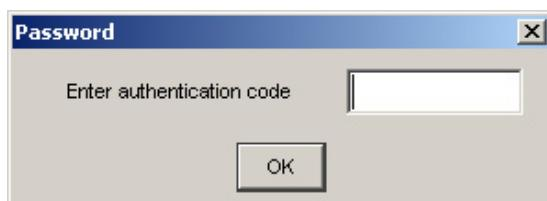

Figure 4-9: Password Dialog Box
**Step 5.** When login as an administrator, enter "root" as the authentication code in the **Password** dialog box at the first time login, and then click **OK**. (See *Figure 4-9*) The authentication code can be changed later in the utility. Only an administrator who has the password can access the notification settings.